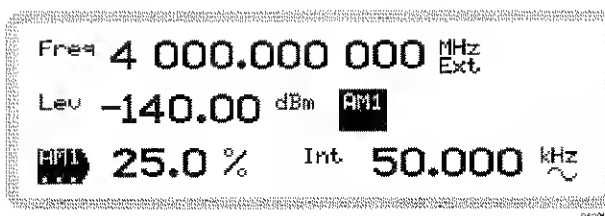

Fig. 3-69 AM1 main screen
- 2 Press **(SIG GEN)** to show the main screen, and touch the **AM1** soft box to select the function (Fig. 3-69).